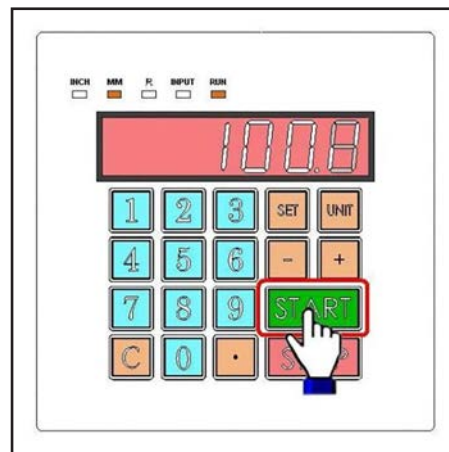

**Figure 34.** Inputting desired value.
3. Press  button (see **Figure 34**) to input value. Display will revert back to 100mm to display table position as it approaches 200mm.